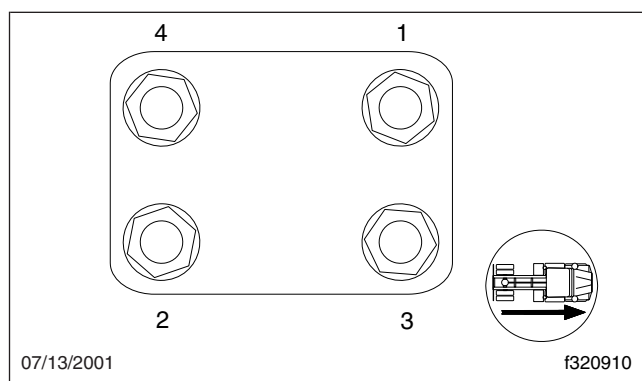

Fig. 11, Tightening Pattern for U-Bolt Nuts
2. Check U-bolt torque in a diagonal pattern. Set a click-type torque wrench to the highest torque value for the fastener being checked. See Group 00 for torque specifications. Turn the wrench in a clockwise motion (looking up) until the torque wrench clicks. See Fig. 11.